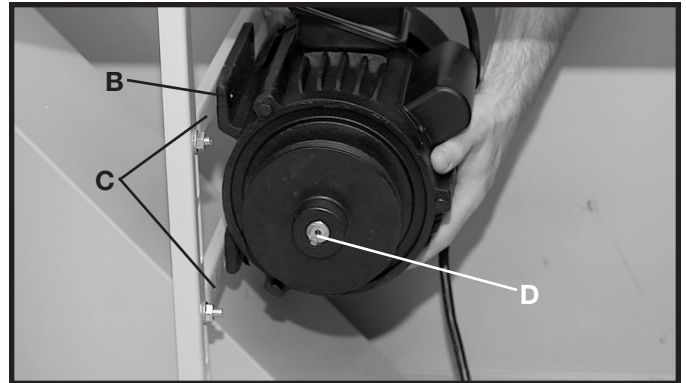

Fig. 5A
3. Align the holes in the motor mounting plate (B) Fig. 5A with the four holes in the two motor mounting brackets (C). Attach the motor to the motor mounting brackets with the hardware that was removed in STEP 2. **NOTE: MAKE SURE THAT MOTOR SHAFT (D) FIG 5A IS FACING OUT OF THE OPENING IN THE MOTOR CABINET AS SHOWN.**